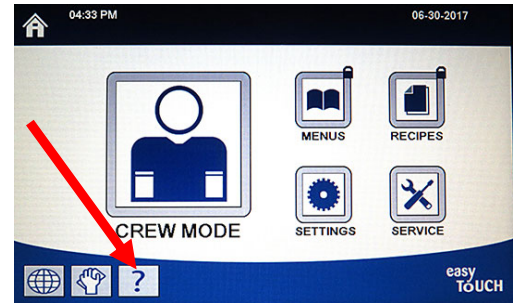

Figure 8
10. Press the ? button (see Figure 8).
21. At the home startup screen press the "?" button (see Figure 8).
- At the home startup screen press the “?” button (see Figure 8).
- At the home startup screen press the “?” button (see Figure 8)